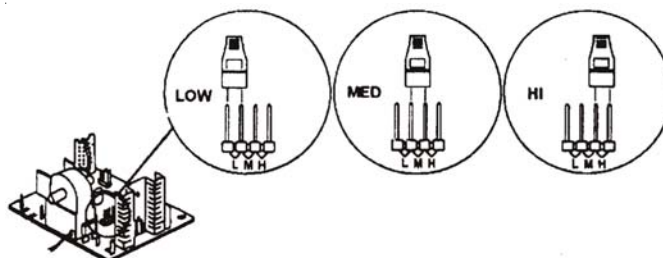

Figure 18
3. Locate the jumper terminal (Figure 18).